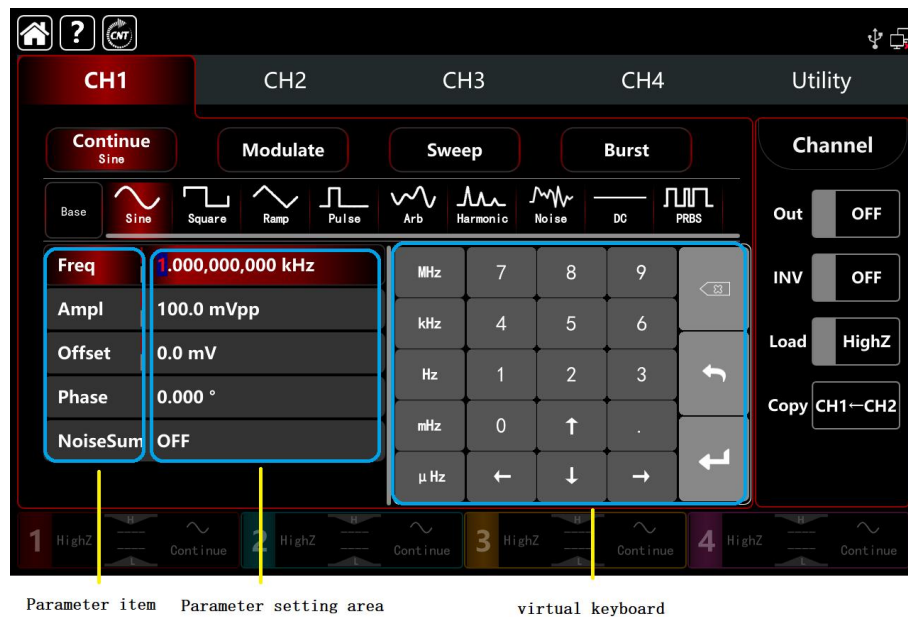

Figure 2-4 Parameter Editing
- ③ . Output Mode: continue, modulate, sweep, burst
- ④ . Carrier wave Settings: Nine carrier wave - sine wave, square wave, ramp wave, pulse wave, harmonic wave, noise, PRBS (pseudo random binary sequence), DC, arbitrary wave.
- ⑤ . Parameter List: Display the parameter of the current wave in list format, tap parameter list area to enable editing, virtual numeric keyboard pop-out ,see Figure 2-4